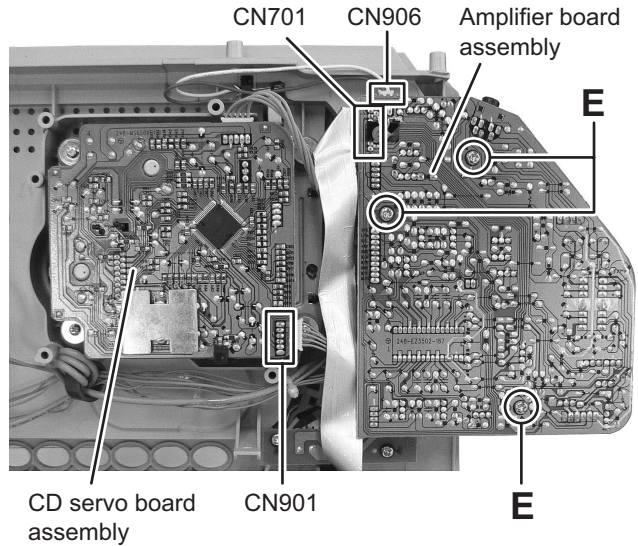

Fig.8
### 3.1.4 Removing the Amplifier board assembly (See Fig.8, 9)
- (1) Disconnect the card wire from LCD board assembly connected to connector CN701 of the Amplifier board assembly. (See Fig.8)
- (2) Disconnect the connector wire from Amplifier board assembly connected to connector CN901 of the CD servo board assembly. (See Fig.8)
- (3) Disconnect the connector wire from CD door switch connected to connector CN906 of the Amplifier board assembly. (See Fig.8)
- (6) Remove the three screws **E** attaching the Amplifier board assembly. (See Fig.8)